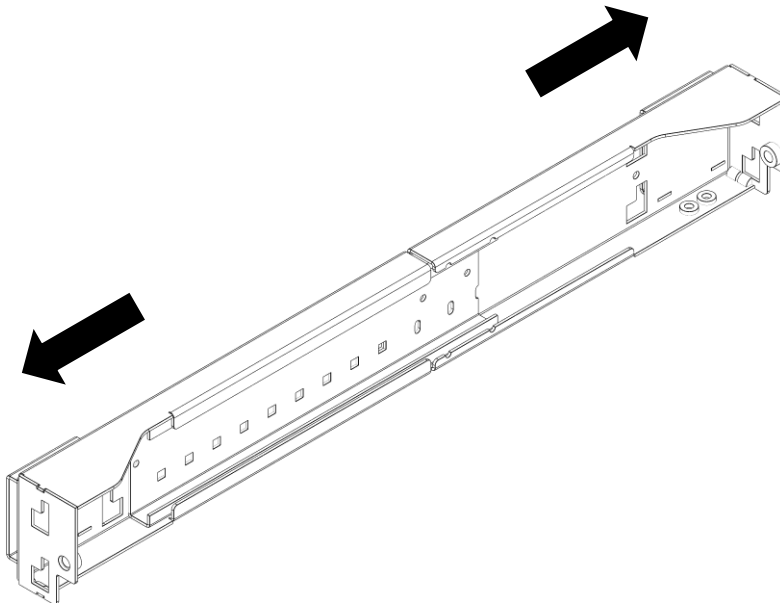

Figure 2
2) Adjust beam to desired length as shown in Figure 2.